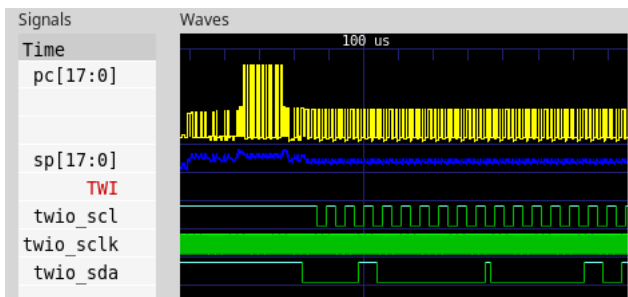

Fig. 2: i2c example trace
- Efficient visual debugging in trace waveforms (Fig. 2), optional on-chip trace debugging via Ethernet